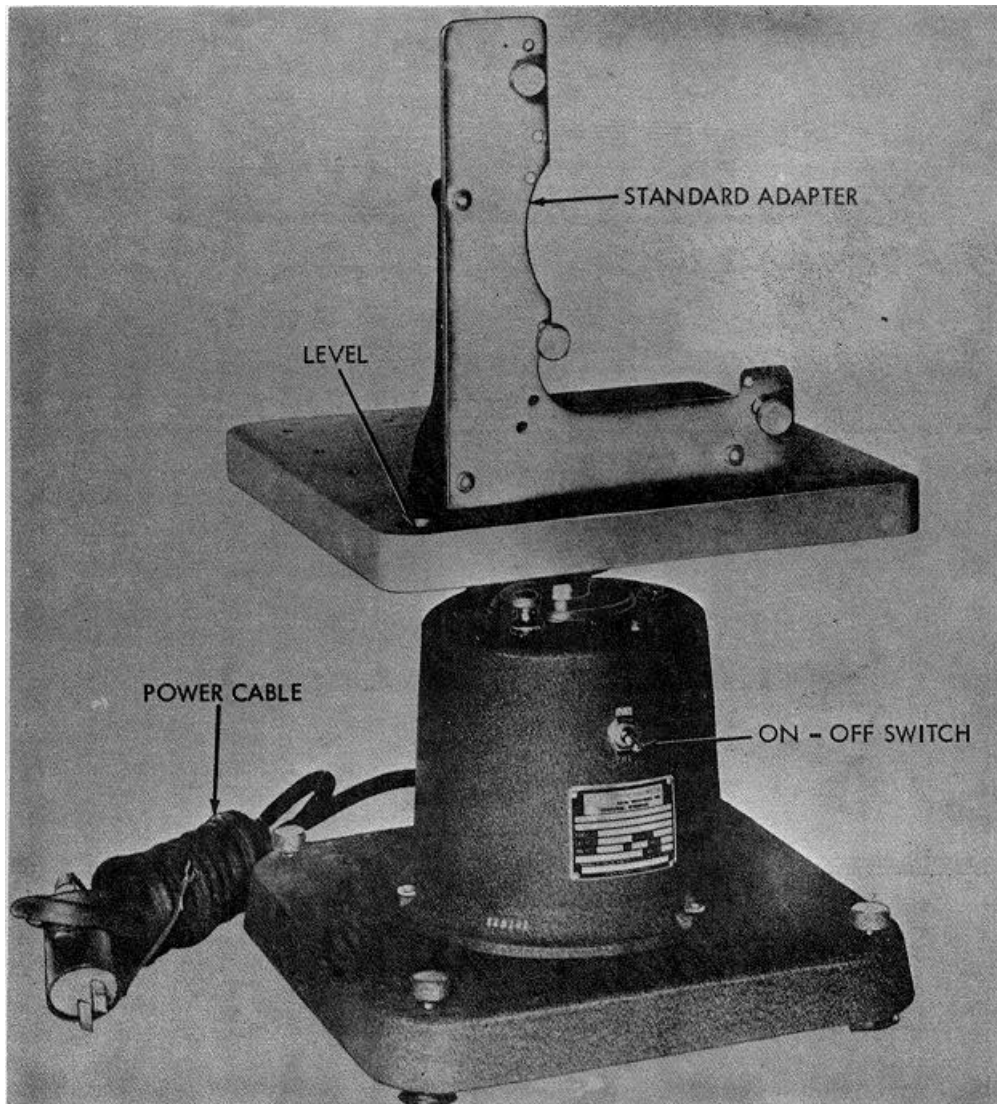

Figure 1. Scorsby table assembly with standard adapter.
a. *General Description* (fig. 1). The Scorsby table assembly (hereafter referred to as table assembly) consists of a Scorsby table part No.1406R manufactured by the Ideal Aerosmith Division of Royal Industries Inc., Cheyenne, Wyo. with a standard adapter. The table assembly is a self contained unit, complete with all operating controls, switches and indicators necessary for
- (1) *The Scorsby table* (fig. 1). The Scorsby table consists essentially of a motor which drives the table through a linkage that will either rotate the table or move it in a Scorsby motion (whichever is desired), an ON-OFF power switch for
- (2) The Scorsby adapter (fig. 1) is an L-shaped adapter that can be attached directly to the Scorsby table to provide the means for mounting and testing a gyroscopic instrument in a vertical position.
- c.* Damaged insulation, broken wires, loose connections, and damaged connector on power cable (fig. 1).